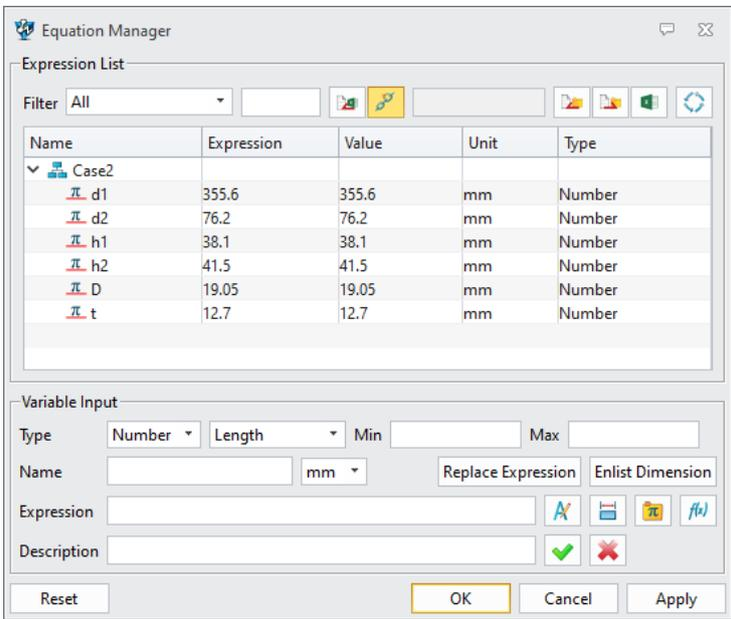

Figure 98 Case2 – Equation Manager
STEP 01 Use Equation Manager command, define the variables as Figure 98.